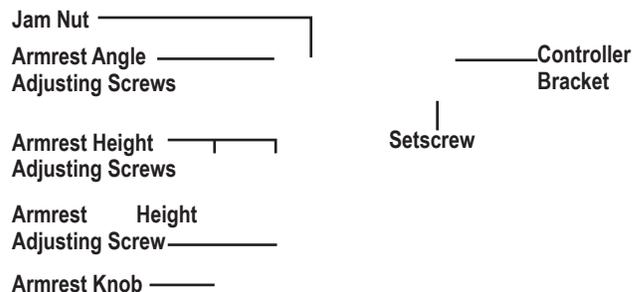

Figure 12. Seatback/Armrest Adjustment
1. Locate the two armrest knobs on each side of the armrest receiver bracket. **See figure 12.**
1. Lift the armrest straight up so that it is perpendicular to the floor. **See figure 12.**
1. Loosen the two setscrews located on the armrest receiver. **See figure 12.**
2. Loosen the setscrew on the controller bracket. **See figure 12.**
11. Secure the controller harness to the armrest with wire ties. **See figure 12.**